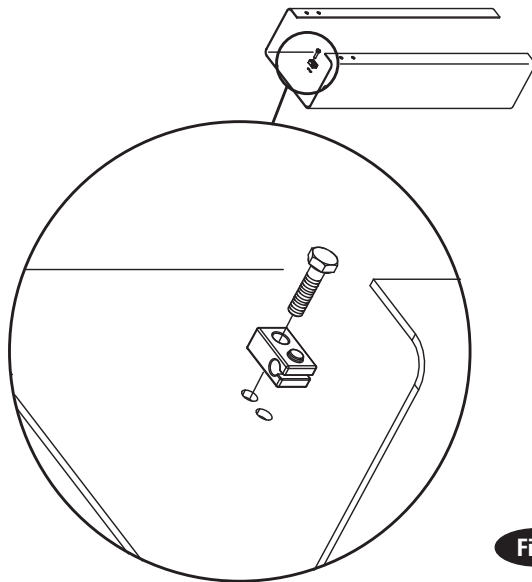

Fig. 3
2. Latch Cable Guides: Install the latch cable conduit guide brackets to column extensions with (1) 1/4"-20NC x 1" HHCS and 1/4"-20NC Flanged Locknuts, Fig. 3. HHCS should go through hole nearest the edge as shown, Fig. 3.
3. Column Extensions: While column is on the ground, install column extensions using (4) 1/2"-13NC x 1-1/4" lg. HHCS and Hex Nylon Locknut, Fig. 2 and Fig. 3. Use (2) M10 x 1.5 x 20mm HHCS and Flanged Locknut to attach the tie bar and the column extension together at the column's uppermost holes, Fig. 2 and Fig. 2a. The tie bar is positioned on the outside of the column extension. Adjust the column extensions plumb.